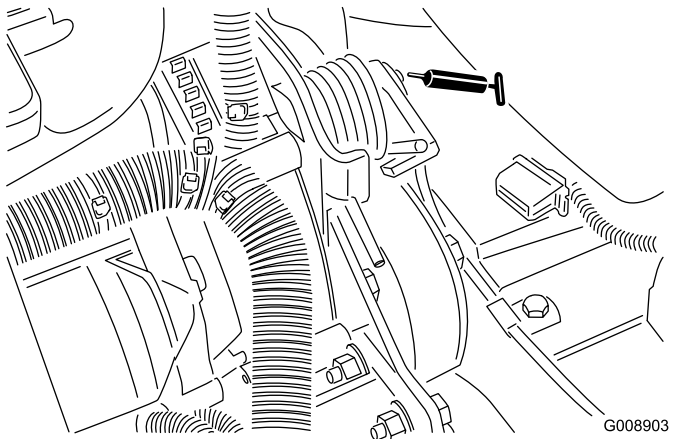

Figure 69
- Belt tension pivot (Figure 69)